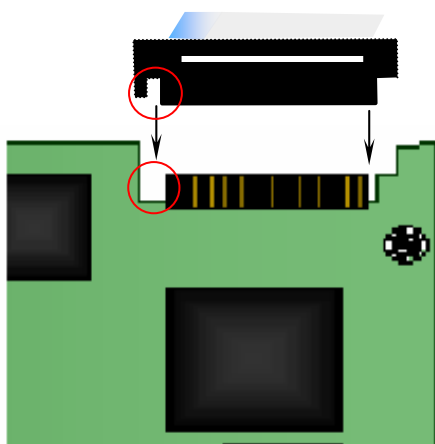

Figure 2-8 Connection of H.100 Bus
- ① See Figure 2-8 for correct insertion. Do not twist or insert in the opposite direction.